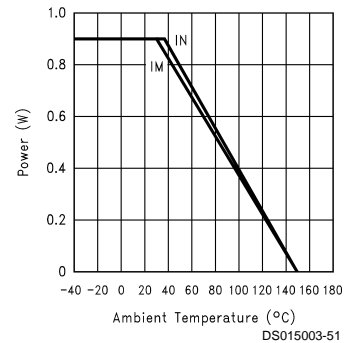

FIGURE 12. Power Derating Curve
3. Calculate the total RMS power:  $P_t = P_{amp} + P_O$  The maximum power that the DIP and SOIC, packages can dissipate at a given temperature is illustrated in *Figure 12*. The power derating curve for any CLC5632 package can be derived by utilizing the following equation: